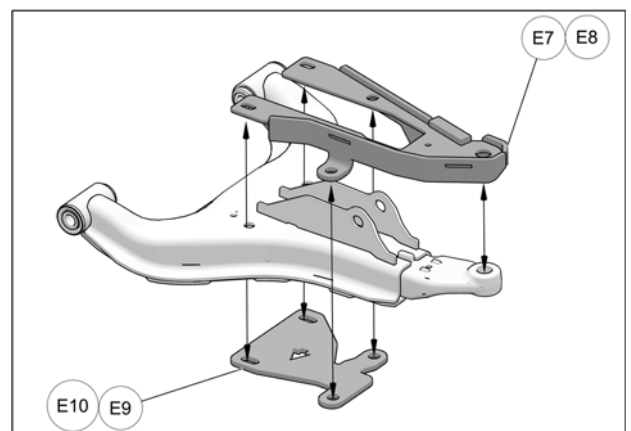

Fig. 12
- Install Stiffener bracket (E7-E8) over upper a-arm with bottom plate (E9-E10) as shown in Fig. 12